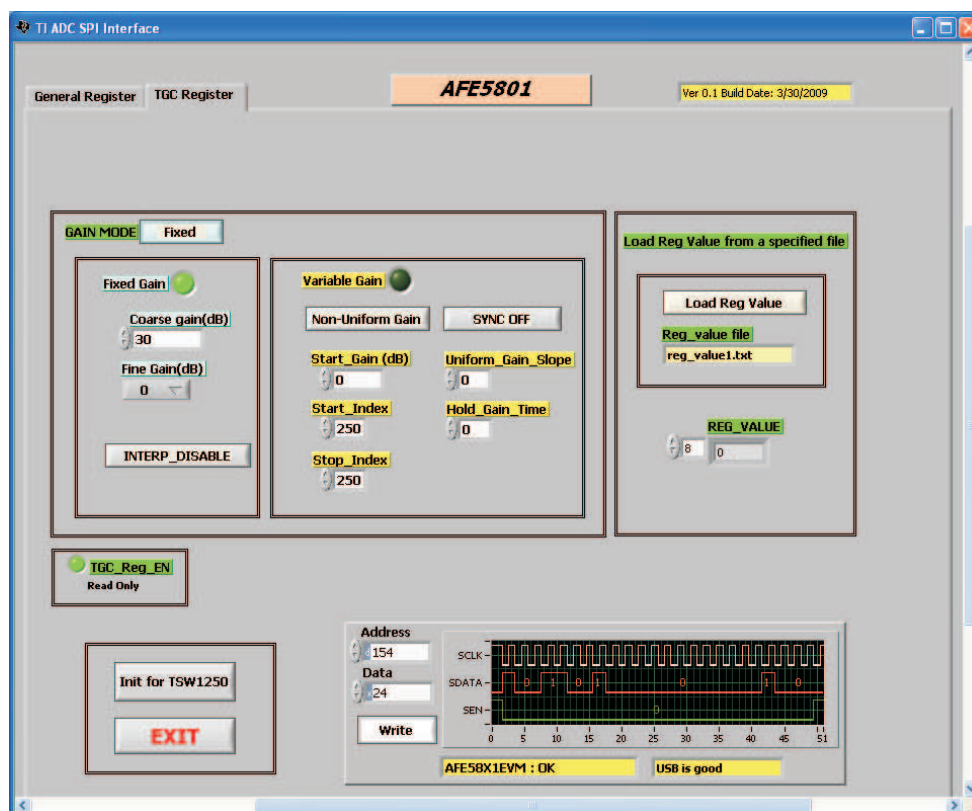

Figure 10. AFE5801EVM USB SPI Fixed Gain Mode
- Select TAB "TGC Register" - Figure 10 will appear
- From Figure 10 enter 30 in the "Coarse Gain(dB)" field then press "Write" button.